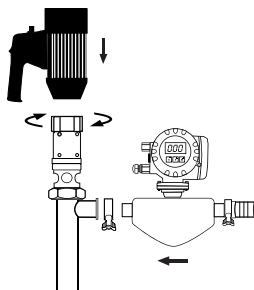

Figure 1
3. Couple the electric motor to the pump using the hex nut (see Figure 1).
4. Attach the Ultra Mass meter to the pump discharge using the supplied Tri-clamp® fitting (see Figure 1).
5. Attach the check valve (p/n:384510V) to the Ultra Mass meter using the supplied Tri-clamp® fitting. (see Figure 1)
6. Attach the hose barb to the check valve using the supplied Tri-clamp® fitting (see Figure 1).